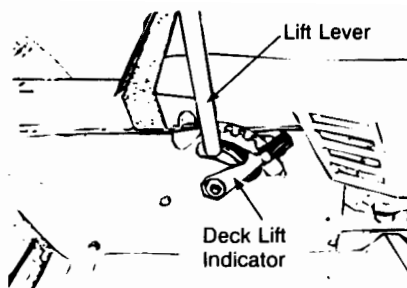

Figure 11
**NOTE:** The lift lever *must* be in the disengaged position when starting the engine, when shifting into reverse and if the operator leaves the seat. See figure 11.
The deck lift indicator marks the position being used for the lift lever. Select the lift lever position desired, press the indicator lever outward, move it to the position immediately below the lift lever and release the indicator lever. See figure 11.
**NOTE:** For the lowest possible cutting height, position the deck lift indicator to the last notch (as shown in figure 11). Lower the lift lever until it is stopped by the deck lift indicator.